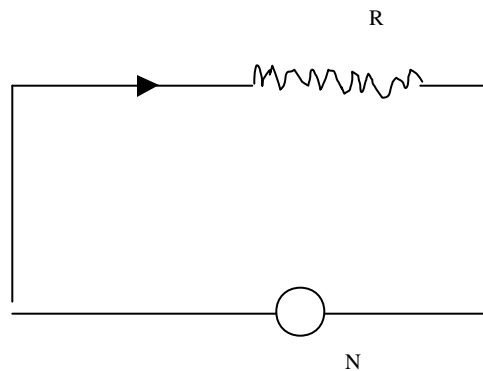

Figure 1. Schematic diagram of a resistor in series with a diode.
5. Connect the circuit in Fig.1 which consists of a diode (the triangle), a small resistor (use a rheostat) and the function generator. Observe the outputs across the resistor and function generator simultaneously on the oscilloscope. From Ohm's Law, the voltage across the resistor is proportional to the current. Other than an overall factor, observing the output across the resistor is like observing the current. From your observations, describe what effect the diode has on the circuit. You may repeat the observations with a circuit without the diode.